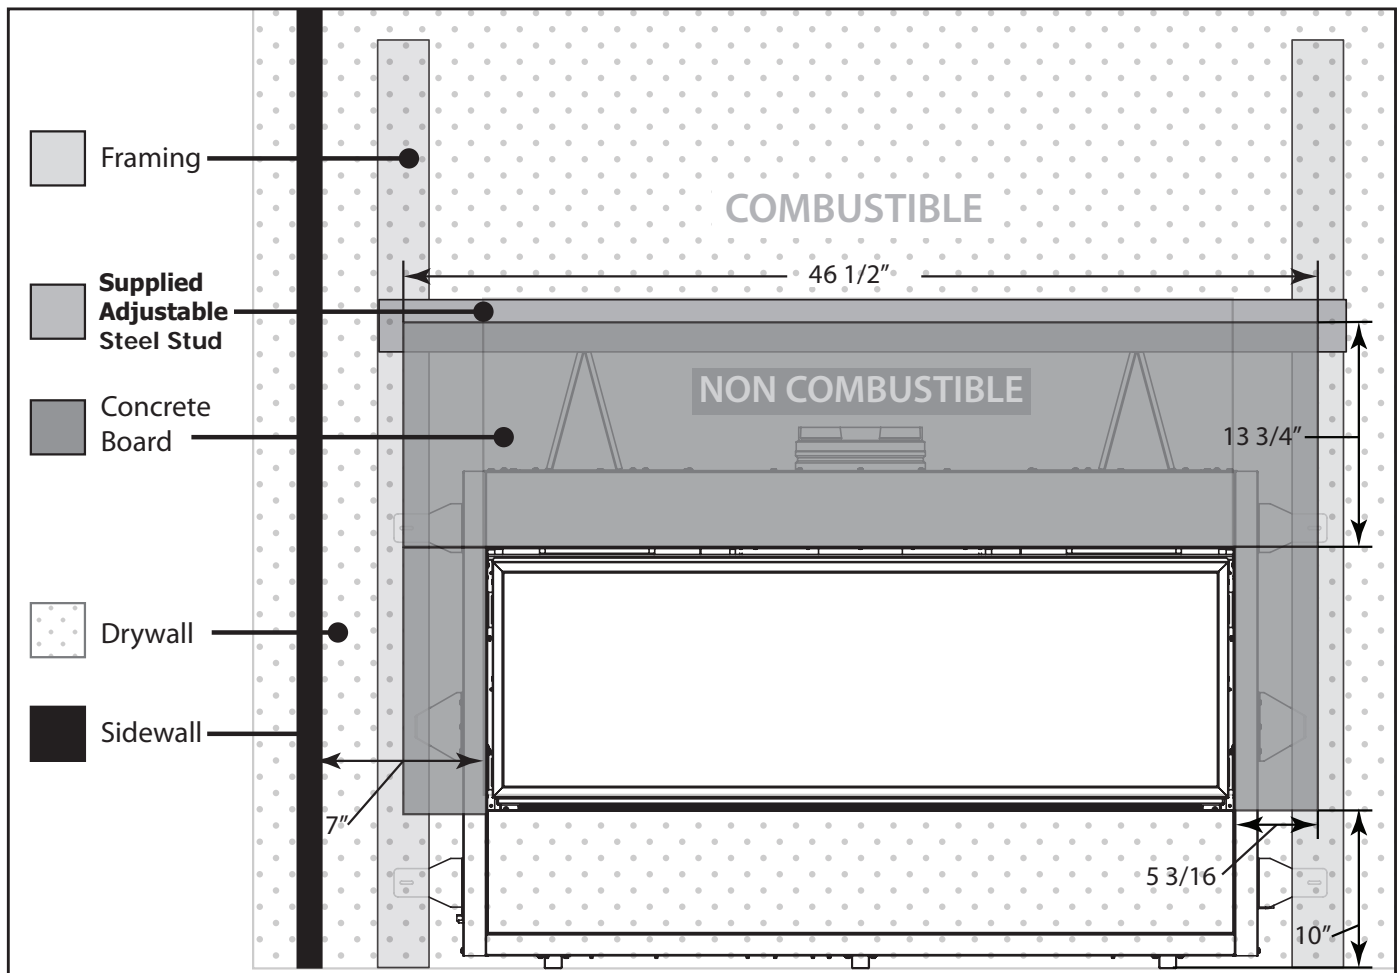

Figure 35: Finishing Non-Combustible Zone
**ABOVE UNIT:** A minimum **13 3/4" (350mm)** of non-combustible facing material must be used above the firebox opening . The non-combustible is only required as shown in Figure 35.